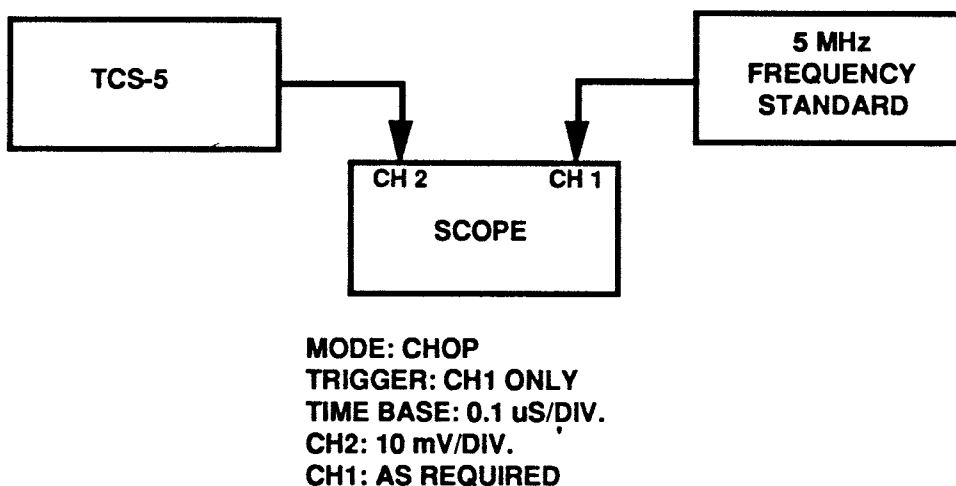

Figure 5-6. Frequency Standard Adjustment Set-up
b. Set up the test equipment per Figure 5-6.